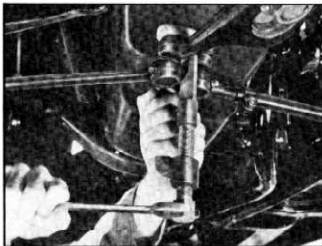

Fig. 4—Removing Inner Ball Studs
3. To remove inner ball studs from steering idler and third arm assembly, install tie rod ball stud remover J-2963 (fig. 4). Turning the screw on the tool will press the ball studs from idler and third arm assembly.